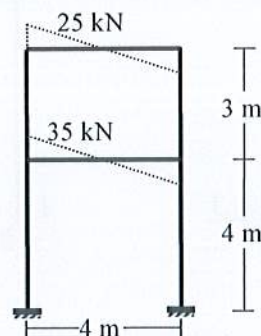

Fig.9
9. The shear force diagram of a frame is shown in **Fig.9**, Apply the Vertical Load (Approximate) Method to calculate gravity load and draw the bending moment diagram of the frame. [05]